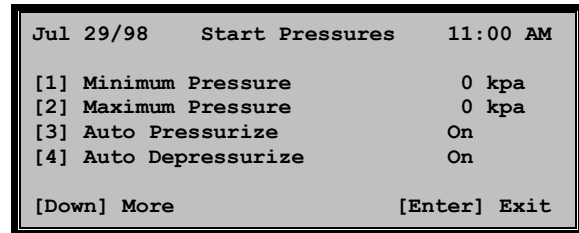

Figure 2-35
- (b) The START PRESSURES screen (Figure 2-35) will be displayed.